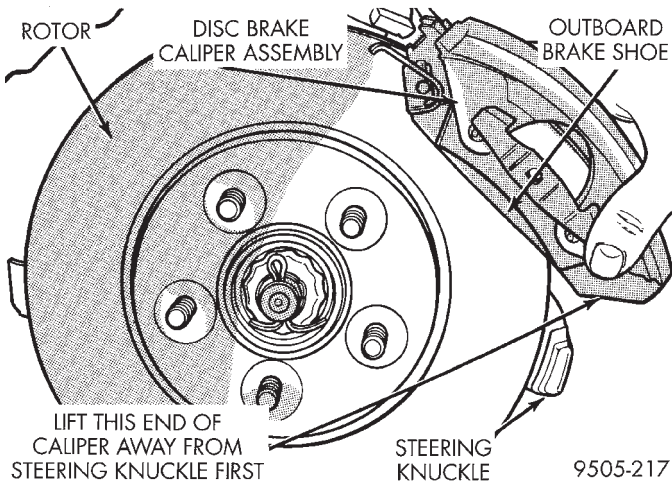

Fig. 79 Brake Caliper Removal
(4) Remove disc brake caliper assembly from steering knuckle. Caliper is removed by first lifting bottom of caliper away from steering knuckle, and then removing top of caliper out from under steering knuckle (Fig. 79).